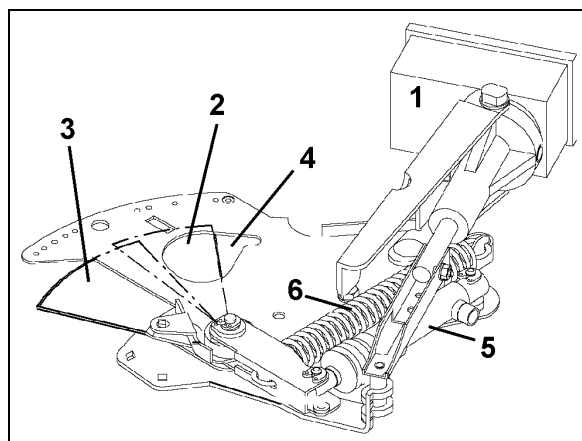
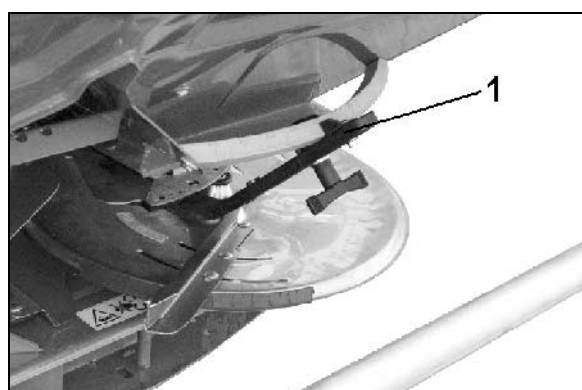

Fig. 12
Fig. 13
- electronically via the on-board computer. the spread rate shutter slides (Fig. 12/2) actuated by setting motors (Fig. 12/1) set various opening widths (Fig. 12/4).
- manually via the setting levers (Fig. 13/1) by setting various opening widths (Fig. 12/4). The required shutter position is taken either from the data given in the **setting chart** or with the aid of the **calculation disc rule**.
The opening and closing of the outlet openings is achieved by two additional shutters (Fig. 12/3) hydraulically (closing) (Fig. 12/5) or by a tensioning spring (opening) (Fig. 12/6).